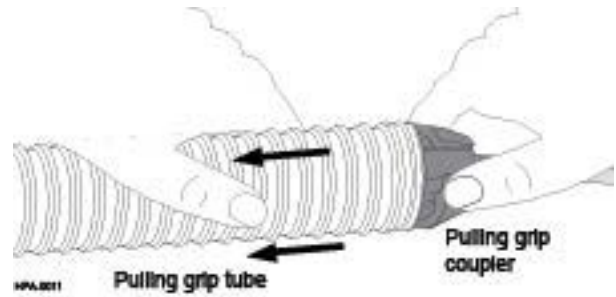

Figure 7— Grip Disassembly
**Step 4:** With the grip lying on a work surface, grasp the coupler at the cable-end of the trunk cable. With a slight twisting motion, pull the corrugated tube away from the coupler with your other hand (Figure 7).